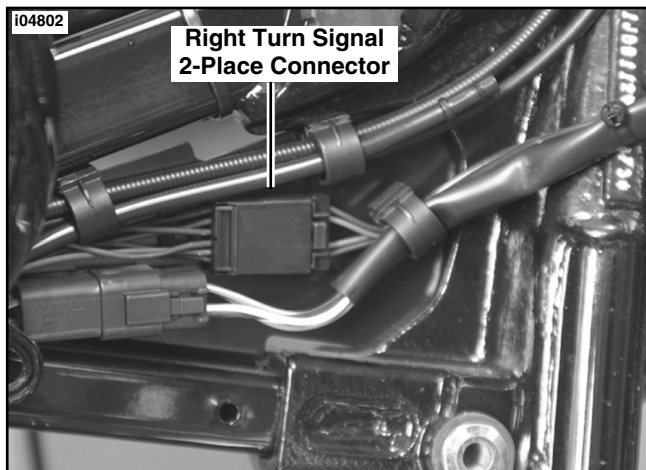

Figure 1. Turn Signal 2-Place Amp Connector
4. See Figure 1. Separate the left and the right turn signal Amp 2-place connector halves.
9. See Figure 1. Remove and discard the four hex socket head screws (1) holding the stock handlebar upper clamp (2). Remove the upper clamp and discard.
10. Remove the handlebar (3) from the motorcycle.
11. Remove and discard the stock handlebar risers (4). Save the remaining hardware for later installation.